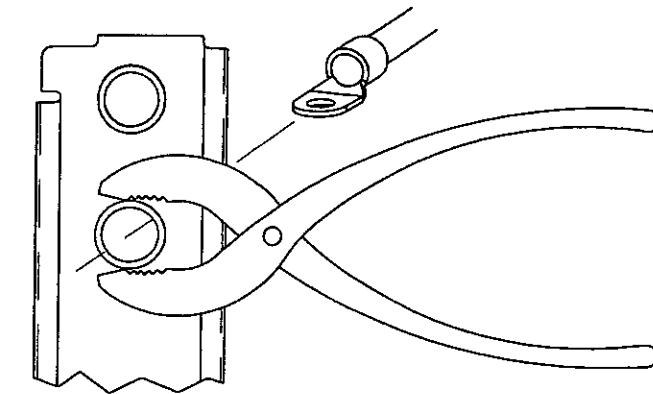

FIGURE 4: SQUEEZING SNAP BUSHINGS
Step 4: The snap bushings depicted in Figure 4 were provided in the Fuselage kit. To insert the cable in an installed bushing squeeze the bushing before inserting the cable terminal. Otherwise, remove the snap bushing from the bulkhead before inserting the terminal, or slit the bushing, slip it over the cable and snap it into the hole.